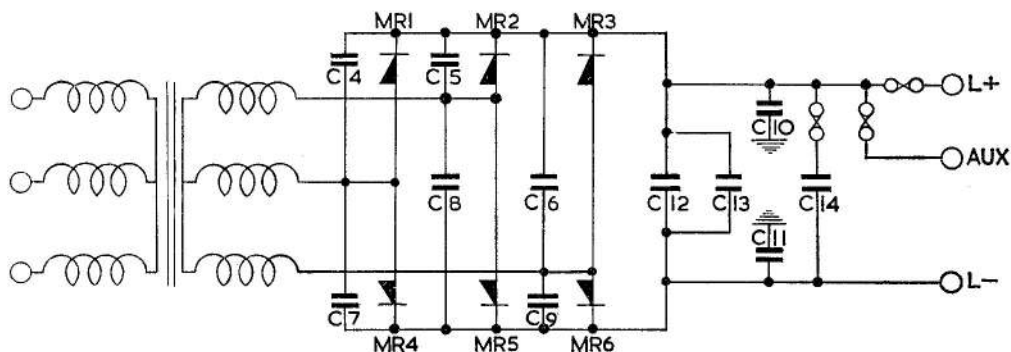

Fig. 2. Basic diagram of T.R.U. channel
5. A simplified diagram of the basic T.R.U. circuit is given in Fig. 2. The 3-phase input is stepped down by the transformer TR5 and rectified by six silicon diodes to give 28 V d.c. at the line output terminals with an output current of 85 A. The 1200 μ F electrolytic capacitor C14 is connected across the output terminals, which are common to both channels. Insulation tests should not therefore be made between terminals line + and - or frame without first disconnecting this capacitor.